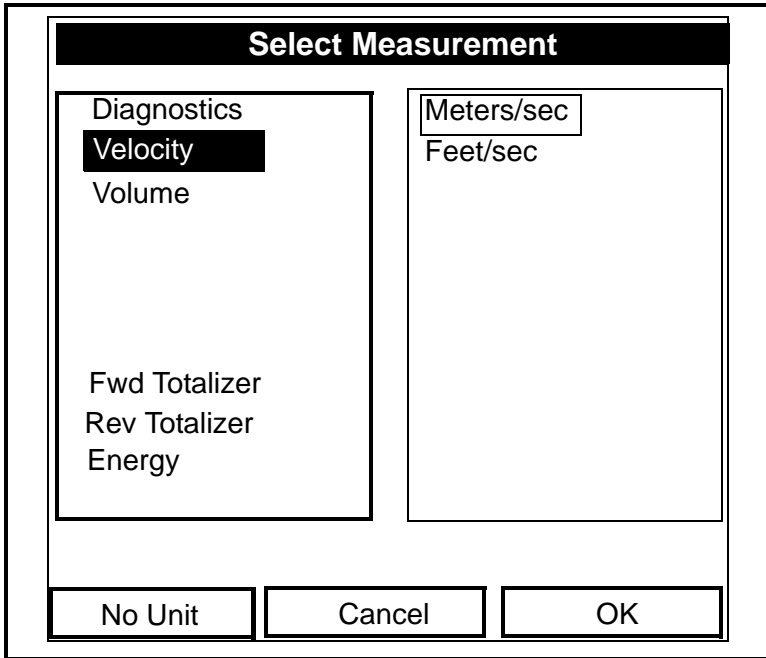

Figure 7-7: The Select Measurement Window
1. Press [ENTER] to open the first entry. The Select Measurement window opens, as shown in Figure 7-7 on page 7-9.